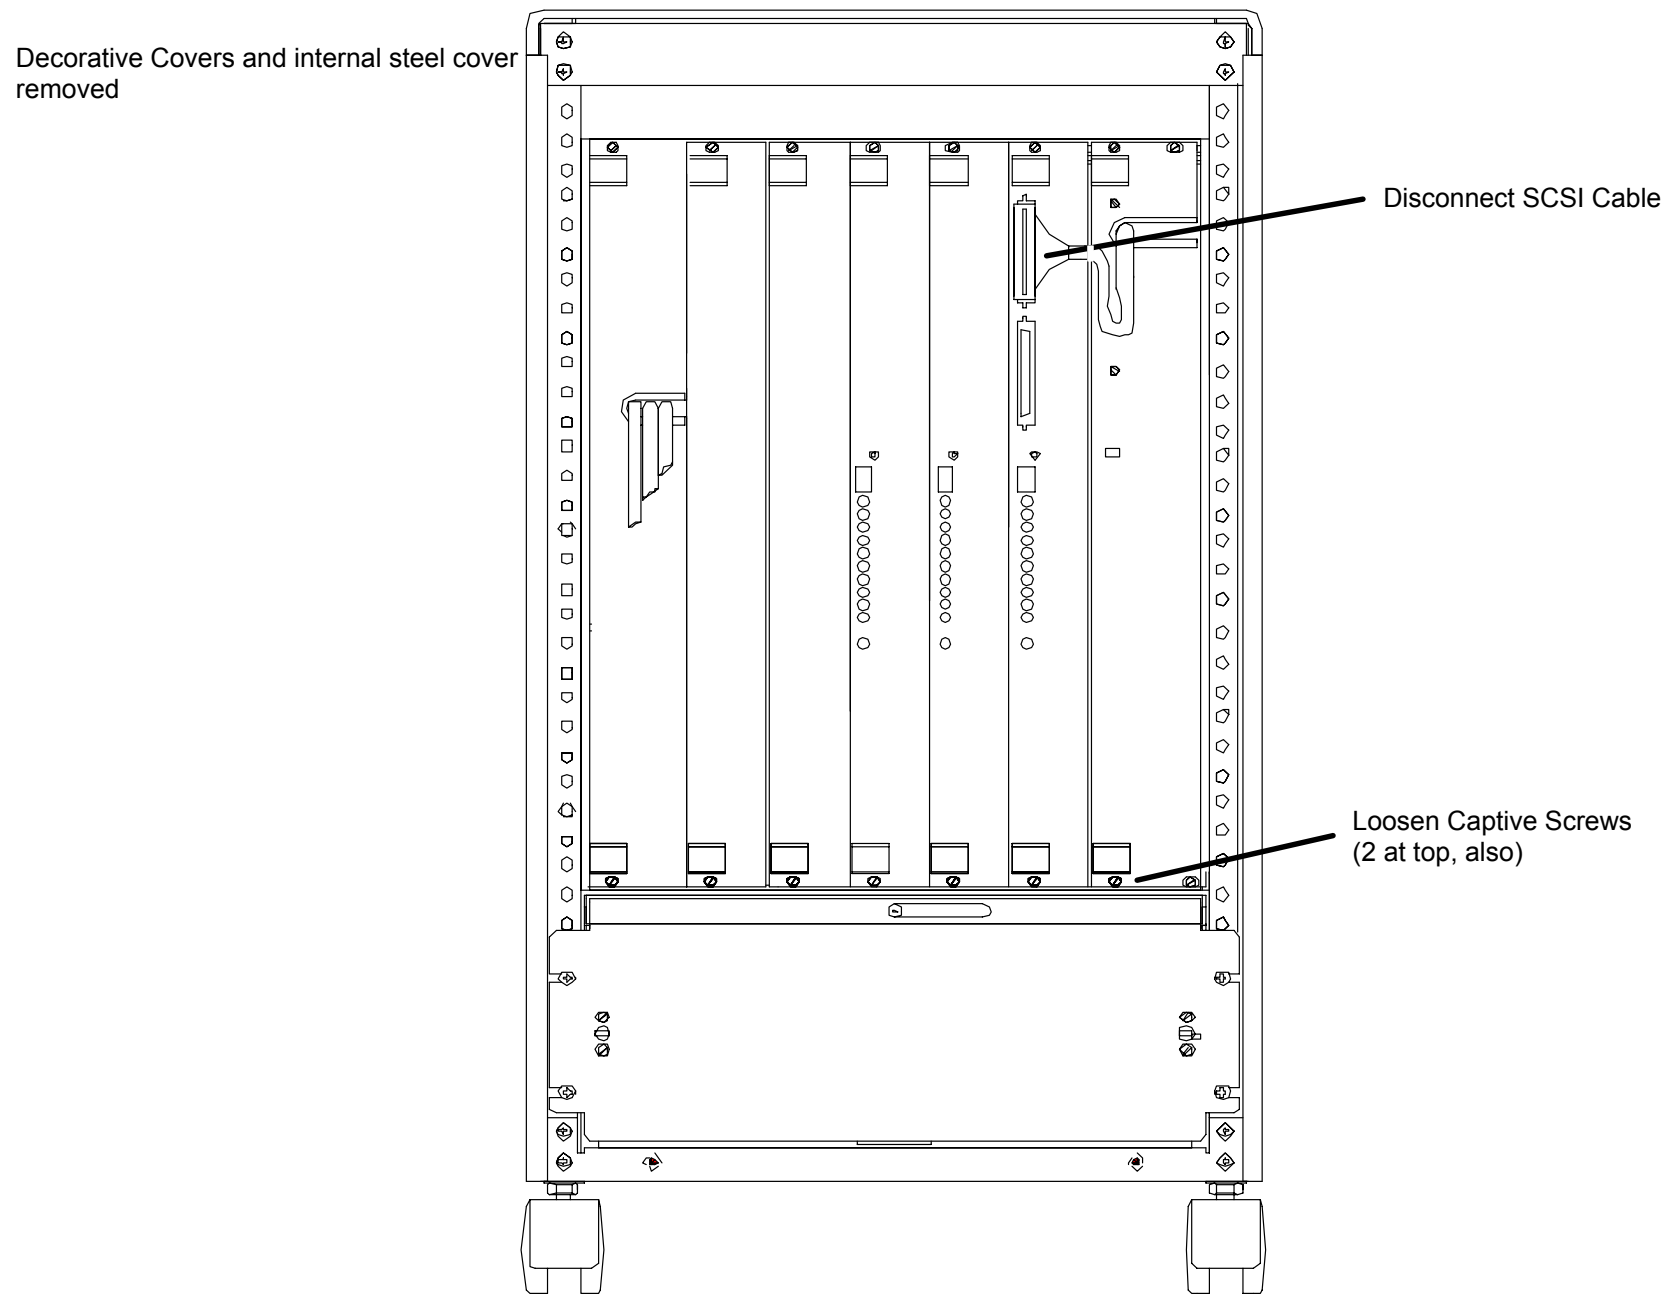

FIGURE 332 AcQImage Cabinet hard Disk Assembly Location
4. Disconnect the SCSI cable attached to the GAM board. Refer to Figure 332.
5. Loosen the four captive screws that secure the hard disk assembly in place. Grasp the handles and slide the assembly part way out. Refer to Figure 332.